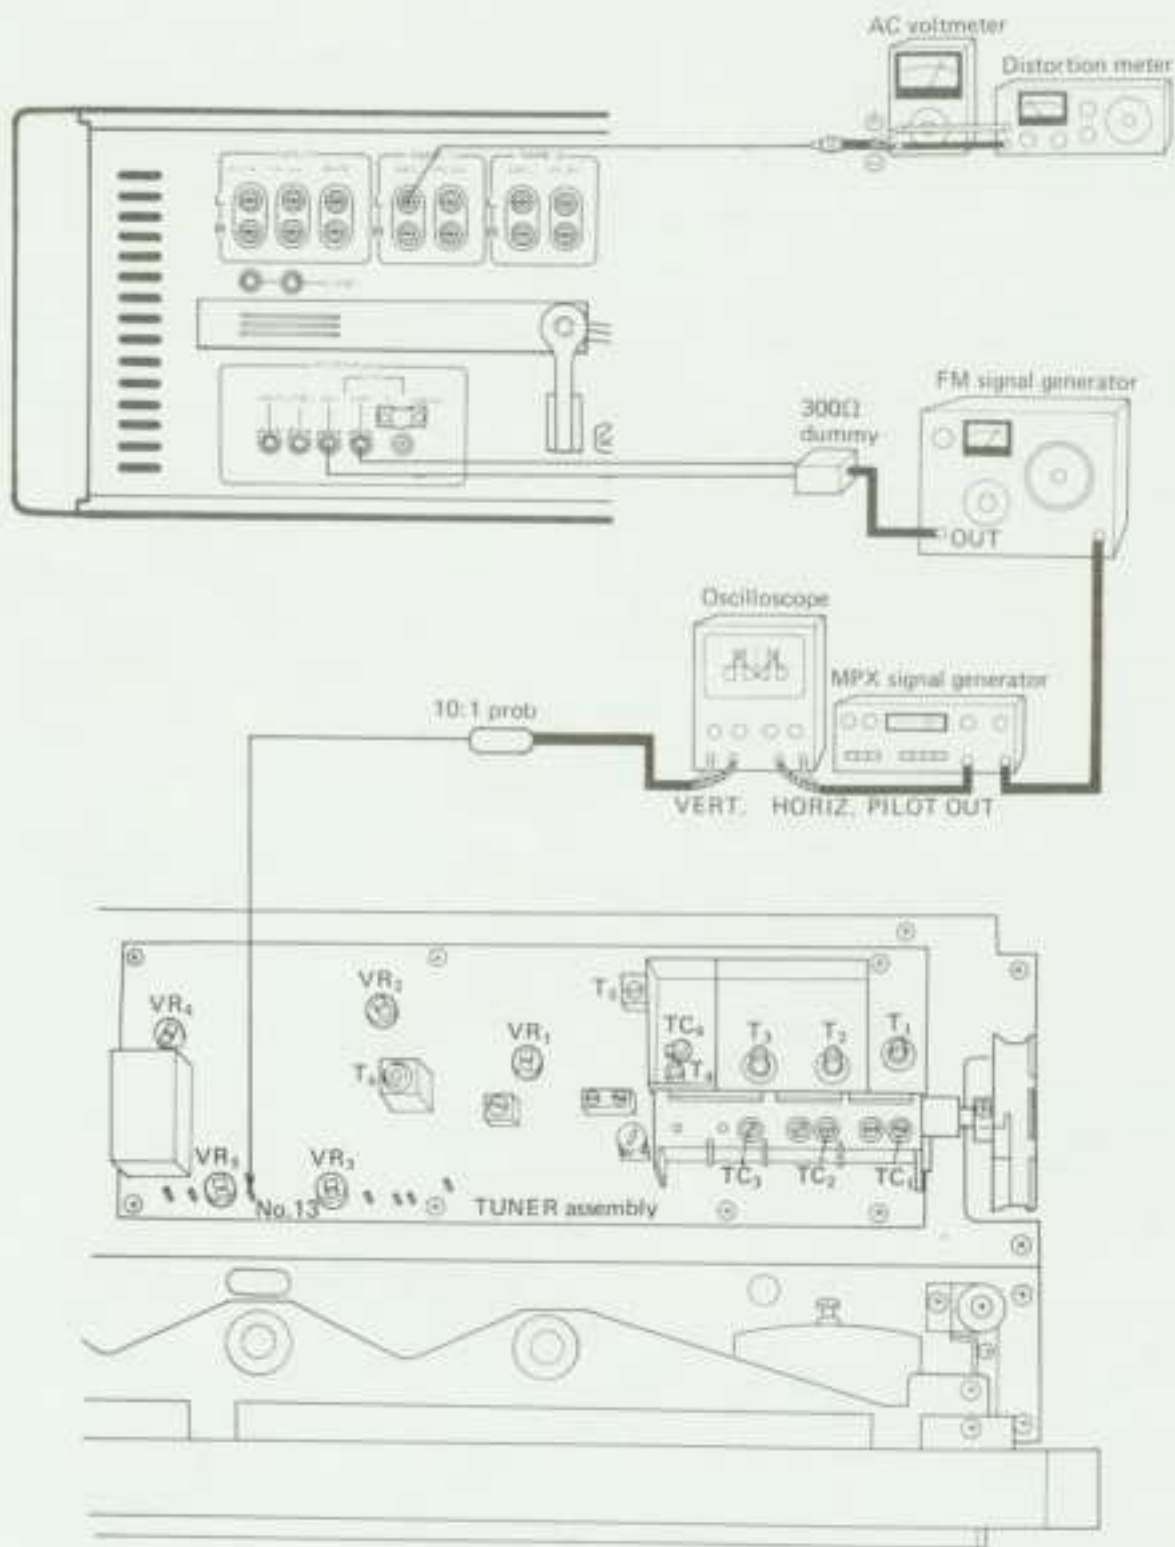

Fig. 20
- Connect as shown in Fig. 20, and set the FUNCTION switch to "FM" and the MUTING switch to "OFF".